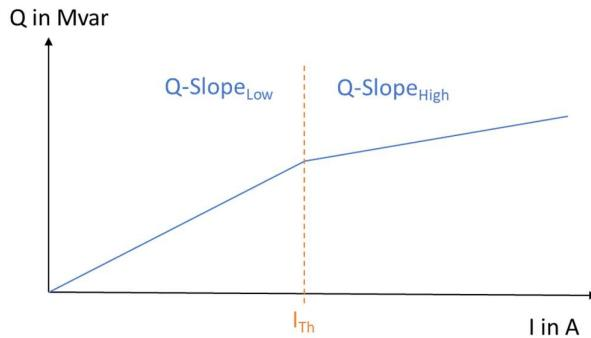

Figure 2: Graphical representation of reactive power calculation
The linear relation between neutral point current and reactive power demand is split into two different slopes and a threshold current, as shown in Figure 2.
- Q Slope Low, Threshold and Q Slope High: see 3.1.1 and Figure 2. The values of  $Q_{Slope}$  and Threshold correspond to neutral point currents. If there is no data available for the Transformers Q-Slopes or the threshold, it must be replaced by 'x'.